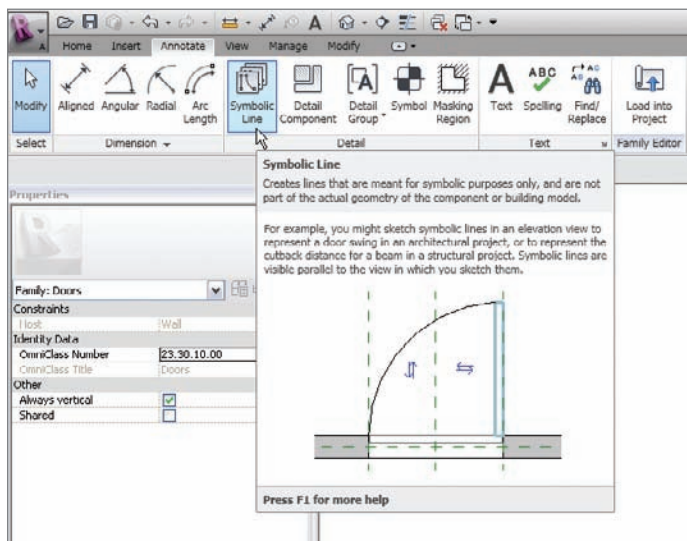

FIGURE 17.26 The Symbolic Line button
1. On the Annotate tab, click the Symbolic Line button, as shown in Figure 17.26.